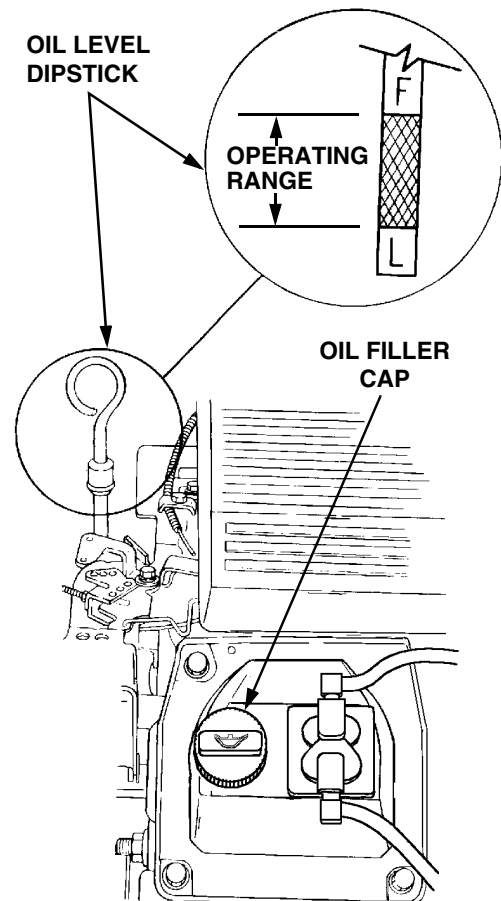

Figure 18
Regularly checking and maintaining the engine oil level in the crankcase cannot be overemphasized. Close monitoring of the oil level during the first 10 hours of operation is especially important. Referring to Figure 18, check the oil level **BEFORE EACH USE** as follows:
3. Remove the oil filler cap from the left valve cover and **SLOWLY** pour in oil. Fill the crankcase until the oil level reaches the "FULL" mark on the dipstick (Refer to Figure 18).
3. Remove the oil filler cap from the left valve cover and SLOWLY pour in oil. The oil capacity is approximately 4 pints. Fill the crankcase until the oil level reaches the "FULL" mark on the dipstick (Refer to Figure 18).